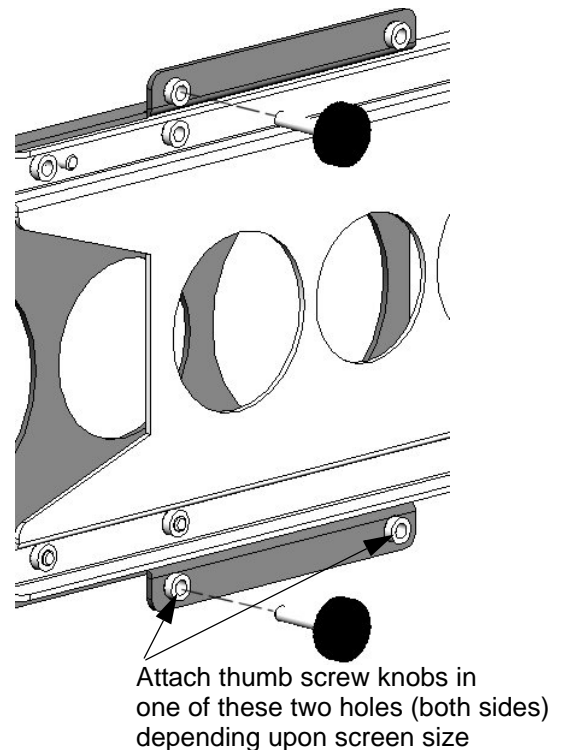

Figure 8. Install Thumb Screw Knobs
- 5. Install the thumb screw knobs (130) (see Figure 8).